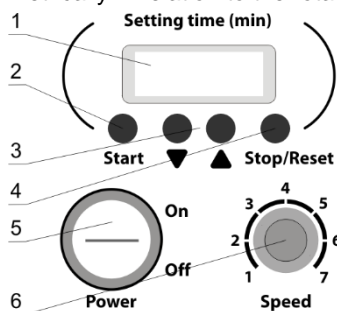

Figure 1. Bio RS-24
- 5.1.1. Connect the external power supply to the mains. Move the **Power** switch (fig. 1/5) to position **on**.
- 5.1.3. Set the rotation speed using the **Speed** knob (fig. 1/6).
- 5.1.4. Set the operation time using the ▼ and ▲ keys (fig. 1/3).
- 5.1.5. Press the **Start** key (fig. 1/2) to start the program.
- 5.1.6. The platform motion begins. Operation timer on the display (fig. 1/1) starts the count-down. Intervals less than 1 hour are displayed in minutes and seconds, intervals more than 1 hour - in hours and minutes.
- 5.1.7. If the operation timer is not set and display shows 0:00, pressing the **Start** key causes continuous operation of the rotator until the **Stop/Reset** key (fig. 1/4) is pressed.